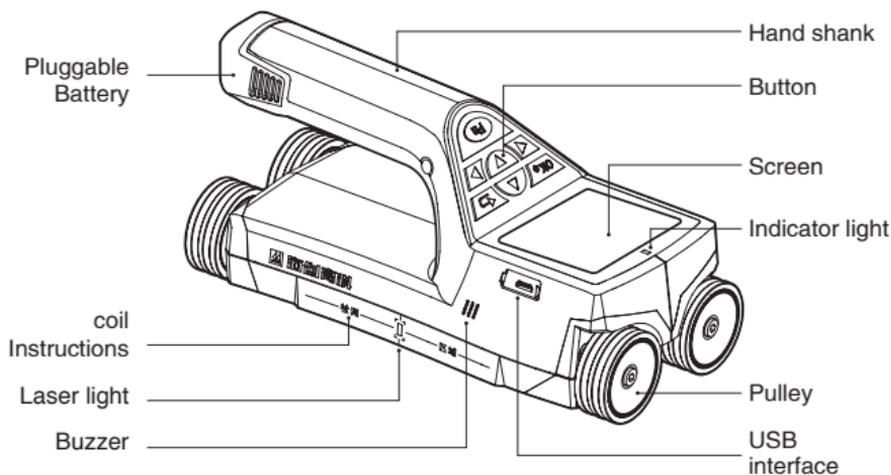

Fig. 2-1
1. HC-GY71T integrated rebar detector (see figure 2-1).